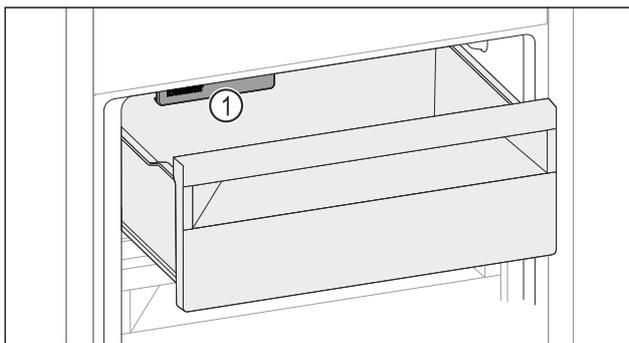

Fig. 132
- ▶ Watch out for the IceMaker Fig. 132 (1).